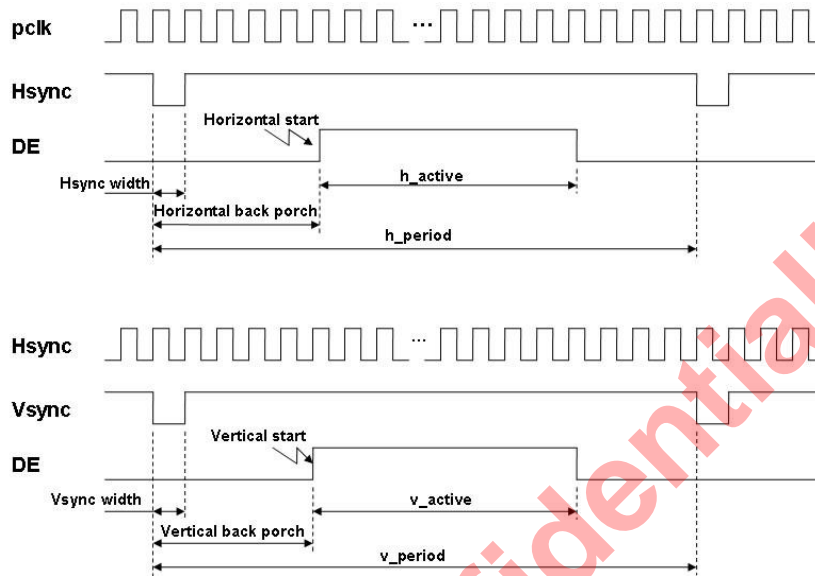

Figure 4.2 - TTL interface TCON signal timing
- The Hsync and Vsync signals are illustrated in Figure 4.2.